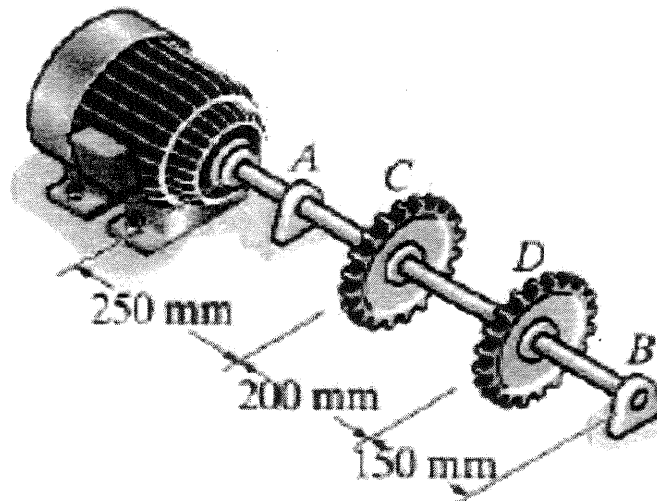

Figure 6: Motor-Gear assembly
- (a) A motor delivers 33kW to the solid stainless steel (ss) shaft while it rotates at 20Hz. The solid shaft is supported on smooth bearings at A and B which allows free rotation of the shaft as shown in Figure 6 below. The gears C and D remove 20kW and 12kW respectively. Determine the diameter of the shaft to the nearest mm if the allowable shear stress is $\tau_{\text{allow}} = 56\text{MPa}$ and the allowable angle of twist of C with respect to D is 0.20° . Take $G_{\text{ss}} = 75\text{GPa}$.